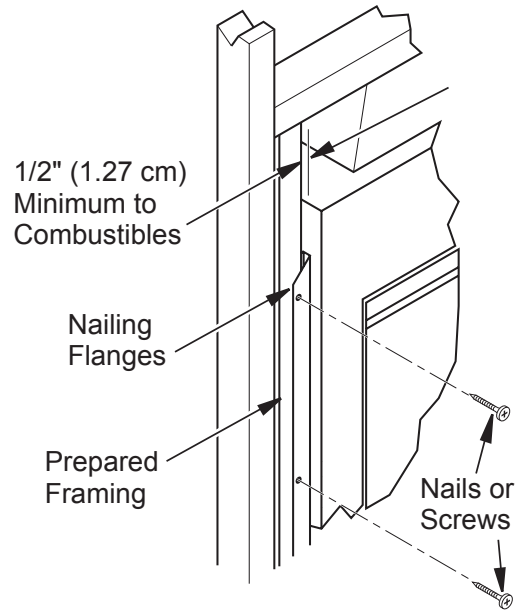

Figure 9 - Nailing Flanges
6. Using screws or nails, secure fireplace to framing through flanges located on sides of fireplace (see Figure 9).